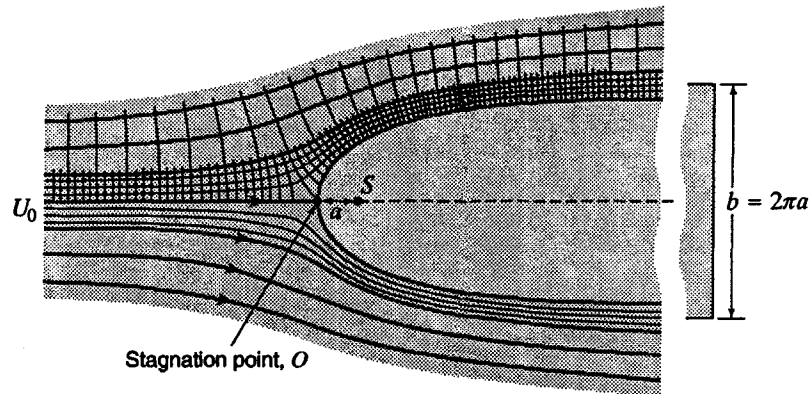

Figure 4.12
- 4.10.4 Given that  $U_0$  in Fig. 4.12 is 4 m/s, find approximately (a) the maximum and (b) the minimum velocity on the body surface.